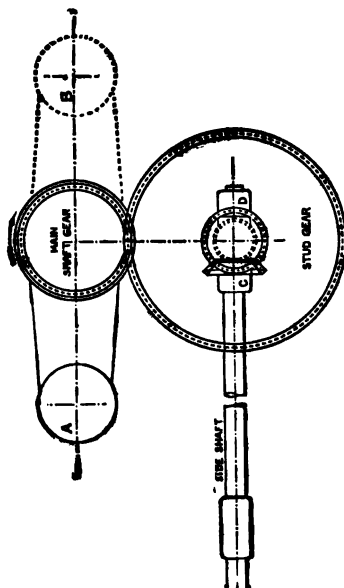
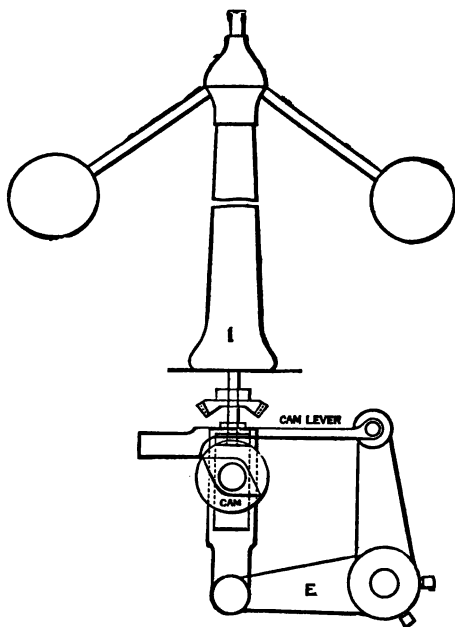
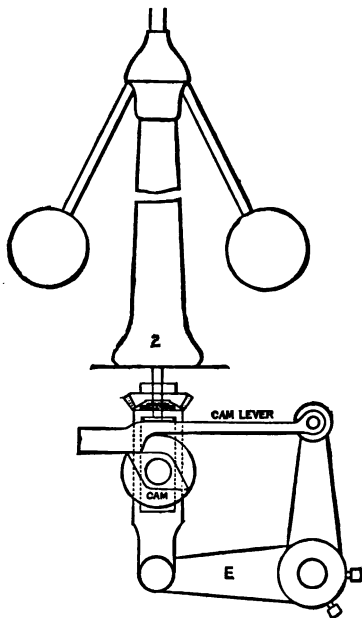

FIG. 44. SIDE SHAFT AND GEAR, PUTNAM ENGINE.
FIG. 46. PUTNAM GOVERNOR.
FIG. 47. PUTNAM GOVERNOR.
A. The valves are operated by a side-shaft placed parallel with the axis of the cylinder, and extending beneath the valve-chests and operated by the main shaft through suitable gearings, as shown in Fig. 44. The steam chests are placed one at each end of the cylinder. On this shaft are placed four cams—one for each valve—shaped as shown in Fig. 46. The cams operate, by raising the free ends, cam-levers, which in turn actuate the valves. The two
The outer ends of the levers operating the inlet valves are pivoted to the upper ends of arms rigidly secured to a shaft placed parallel with and outside of the cam-shaft, and having at its centre a third arm, *E*, Fig. 46, which extends to and unites with the governor rod. The governor, of the ball type, is driven by bevel gears from the cam shaft, and its lower end is slotted to inclose the cam shaft, and extend to the arm *E*. The raising and lowering of the governor rod will partly turn the shaft carrying the arm and thereby move the inlet-cam levers toward or from the valve stems in a horizontal direction. The free ends of these levers are shaped as shown in Fig. 46 the under side of the lever being cut away on a curve directly over the cam. When the cam lever is in the position shown in Fig. 46, it will not be lifted by the cam, which revolves in the direction of the hands of a watch. The governor balls are now at their highest possible point. In Fig. 47 the governor-balls are shown at their lowest